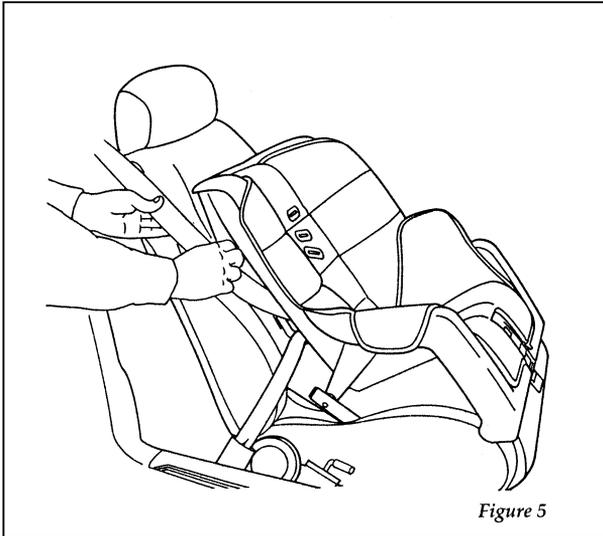

Figure 5
6. Allow the belt to retract. Pull up on the shoulder webbing. A clicking sound will be heard as the belt retracts. This indicates the retractor is in the automatic locking mode. Push down on the child seat while you pull up on the belt to remove any slack in the belt. See Figures 5 and 6.